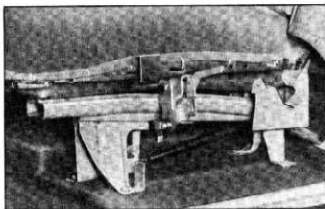

Fig. 25—Seat Adjuster Attachment
3. Remove seat adjuster bolts attaching each seat adjuster support to the floor pan (fig. 25).